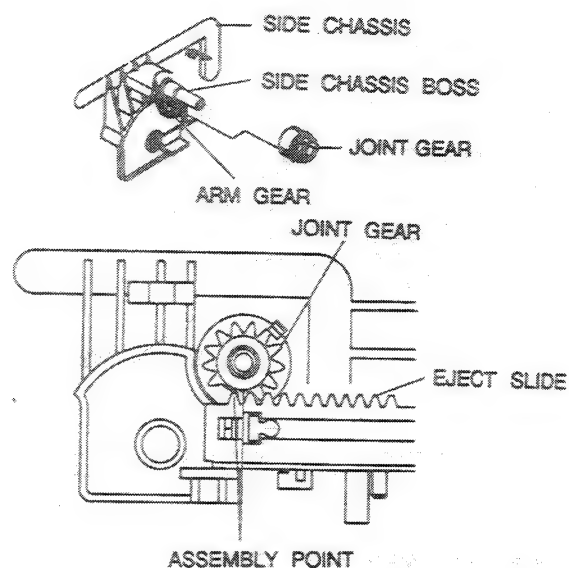

Fig. 20 Joint Gear, Arm Gear and Eject Slide Assembly
2. Assemble the joint gear with the eject slide as Fig. 20.